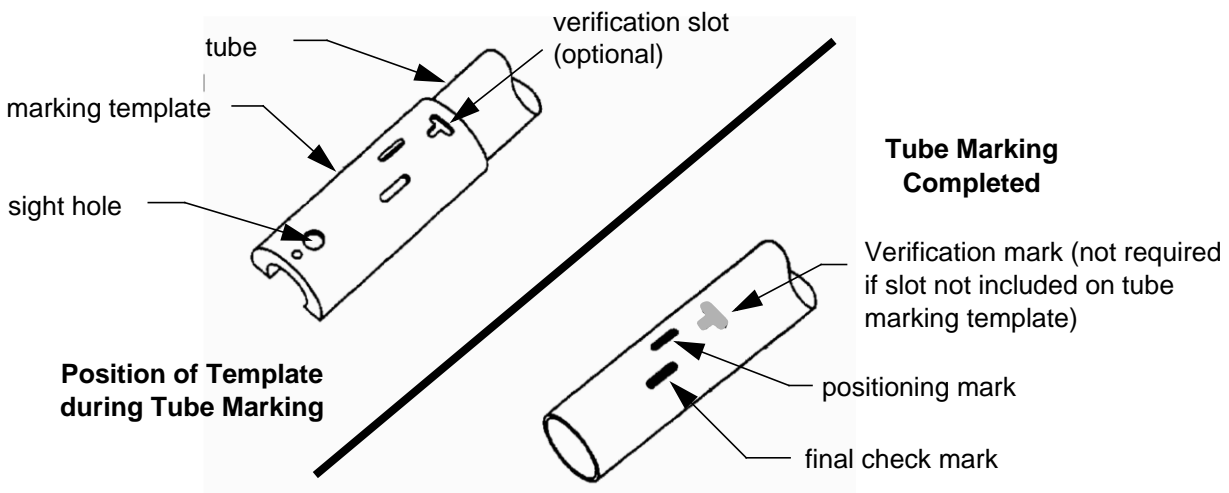

Figure 2 - Using the Tube Marking Template
5.3.4 After cutting the tube to length and deburring, apply tube marks to each tube end to be swaged as follows (see Figure 2):